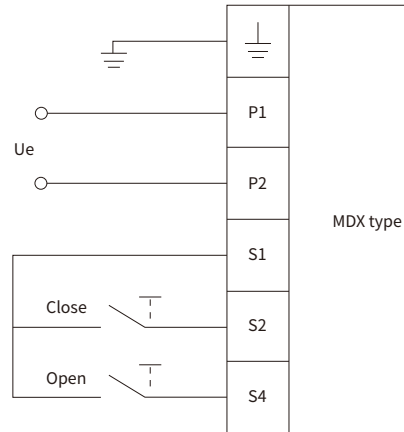

Figure 5. Wiring diagram of the MDX type motor operator
8、 See Figure 5 for the wiring diagram of the motor operator